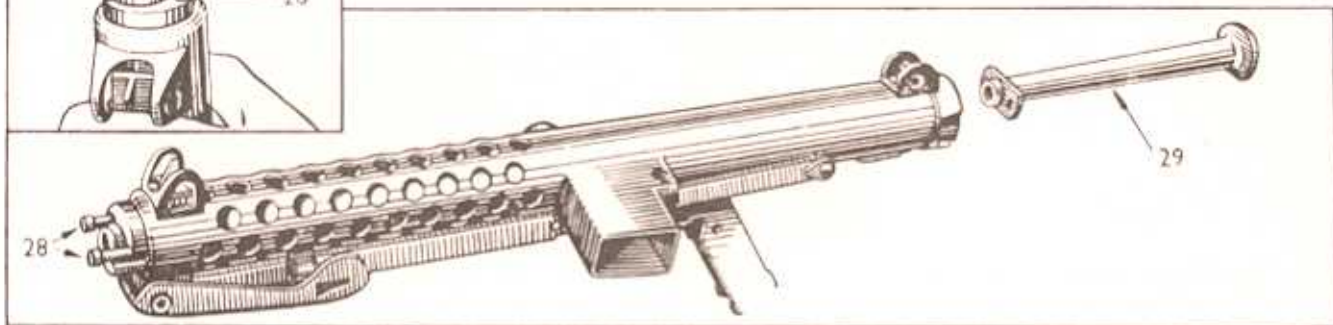

Fig. 15. To remove barrel
9.5 TO REMOVE BARREL (Fig. 15). Partially unscrew the two barrel retaining screws (28) as shown using $\frac{3}{16}$ " Allen key. Protect these with a piece of wood and using a mallet drive barrel back from its seating. Remove screws and rotate barrel (29) to clear bayonet lug and withdraw from body.